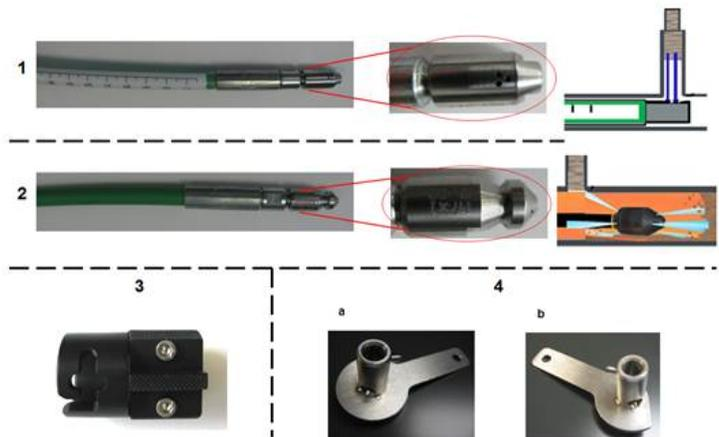

Figure 12. Special tool set VAS6825
1. Become familiar with the special tool set VAS6825 (Figure 12):
- Special hose with scale for cleaning single ports (Figure 12,1)
- Special hose for cleaning the main ports (Figure 12,2)
- Hose adaptor for the special hose with scale (Figure 12,3)
- Engine adaptor for bank one (Figure 12, 4a)
- Engine adaptor for bank two (Figure 12, 4b)